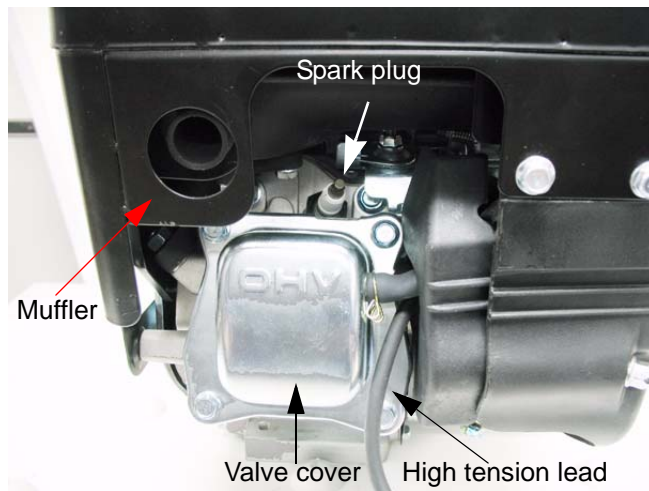

Figure 1.7
3. Remove the spark plug using a 13/16" or 21mm wrench. A flexible coupling or "wobbly" extension may help. See Figure 1.7.